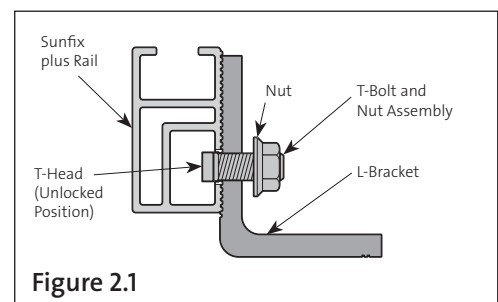

Figure 2.1
- 2.1. Insert T-head of bolt (now connected to L-bracket) into the channel on the long side of the Sunfix plus Rail ⑦, as shown in **Figure 2.1**.